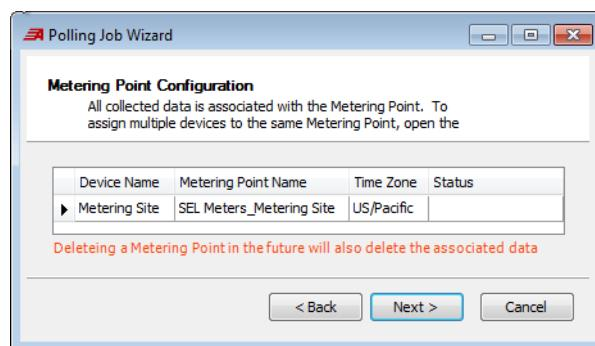

Figure 193 Configured Metering Point
- Step 6. Select once in the existing **Metering Point Name** column to change the default **Metering Point Name**. For this example, use the default name of **SEL Meters_Metering Site**. *Figure 193* shows the configured metering point.